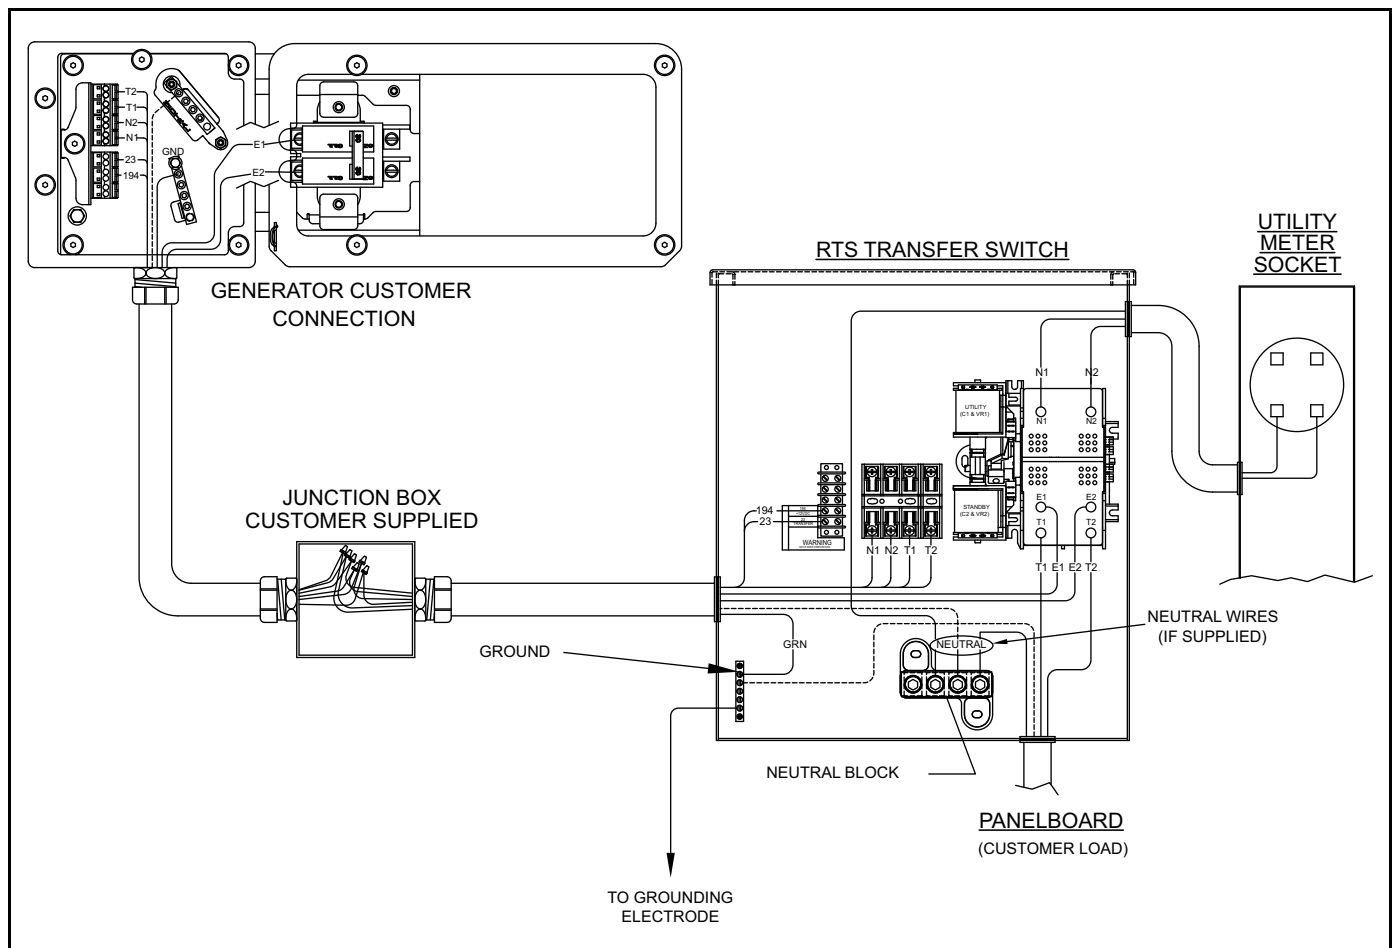

Figure 6-2. Main AC Wiring
3. Install the conduit and Main AC and Control Wires between the generator and the transfer switch (Figure 6-2). Through a NEMA 3 rated external connection box (not supplied).
4. If required, connect the Neutral wire to the Neutral Bar and torque to the required specification. See Figure 6.2.
5. Connect the Ground wire to the Ground Bar and torque to the required specification. See Figure 6.2.